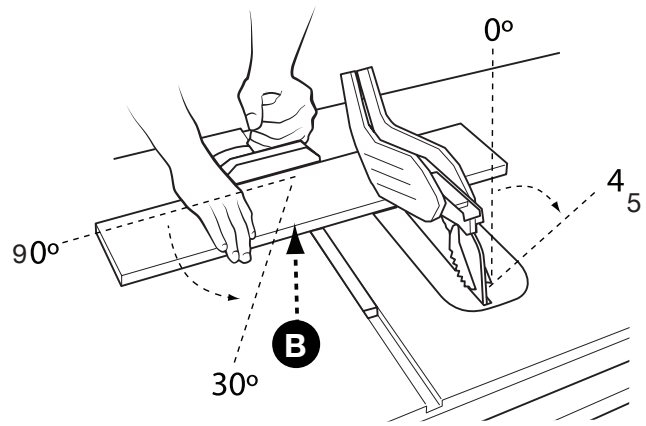

FIGURE 27
Miter crosscutting is the same as crosscutting except the miter angle (B) is set to an angle other than  $90^\circ$  (Fig. 27).
This is a combination of bevel crosscutting and mitering. Refer to (Fig. 27) and follow the instructions for both bevel crosscutting and mitering. Remember to use the right miter slot on the right side of the blade for all bevel cuts.